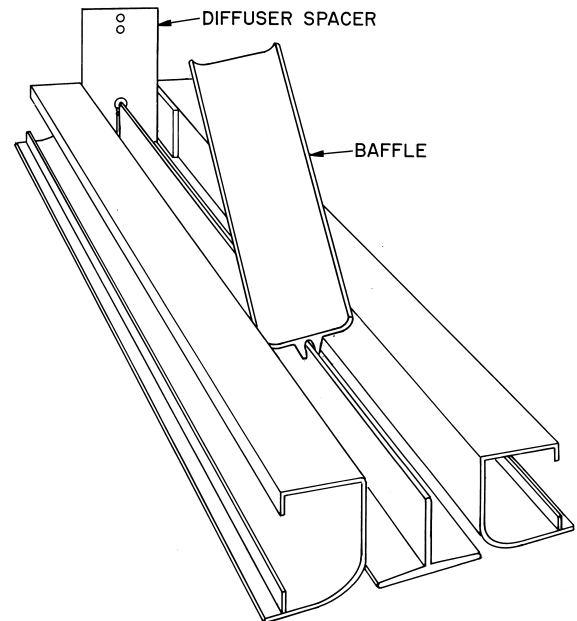

Fig. 31 — Diffuser Baffle Assembly
3. Push the diffuser baffle into the space between side diffusers and down onto the center diffuser at the end away from the unit. Then push down the end close to the unit. The baffle will form around the legs of the diffuser spacer and lock onto the center diffuser. See Fig. 31.